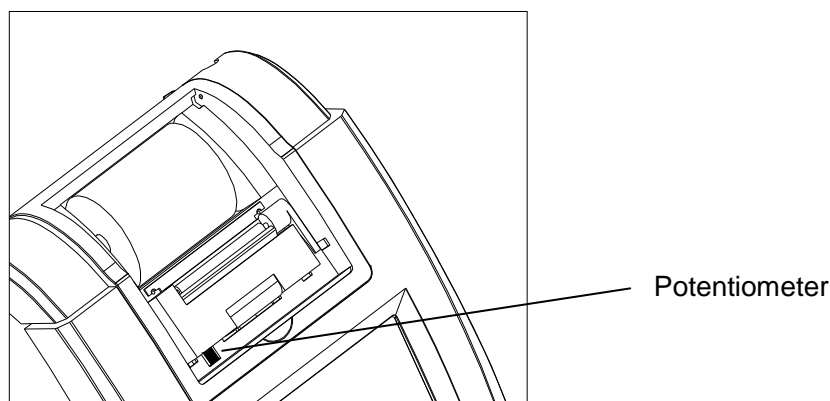

Figure 2.5
2. Adjust the potentiometer (see Figure 2.5 ) using a suitable screwdriver, rotate it to find a position where the contrast of the screen is the most suitable.